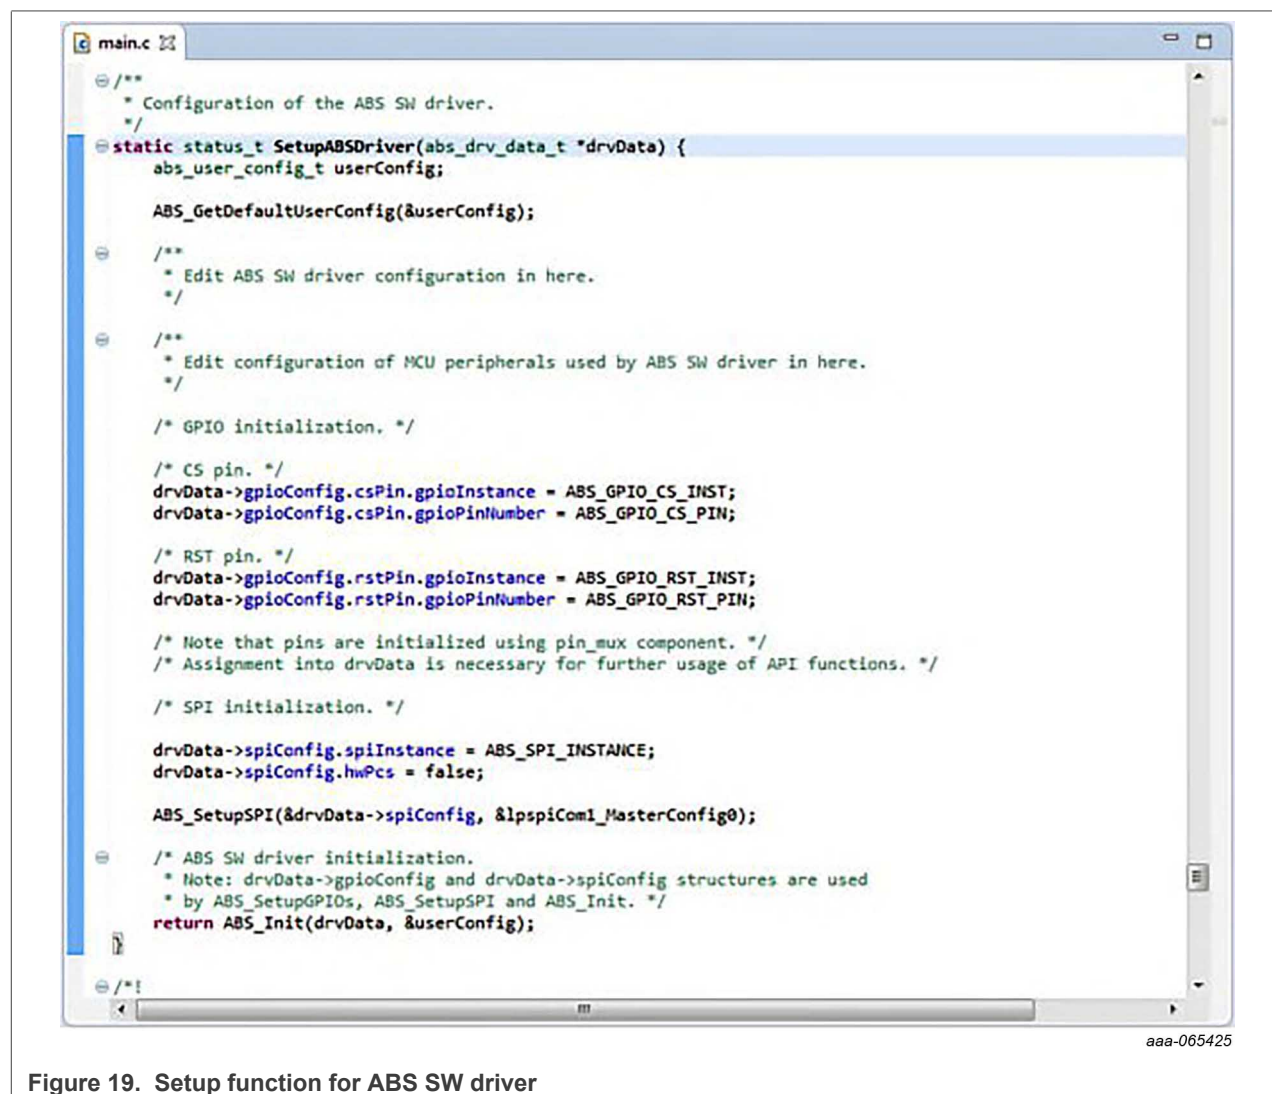

Figure 19. Setup function for ABS SW driver
3. Configure the ABS SW driver as follows, as shown in Figure 19. Apart from **ABS_GetDefaultUserConfig()**, the user changes individual items according to user requirements. The configuration structure maps internally to the device register array based on the selected model.